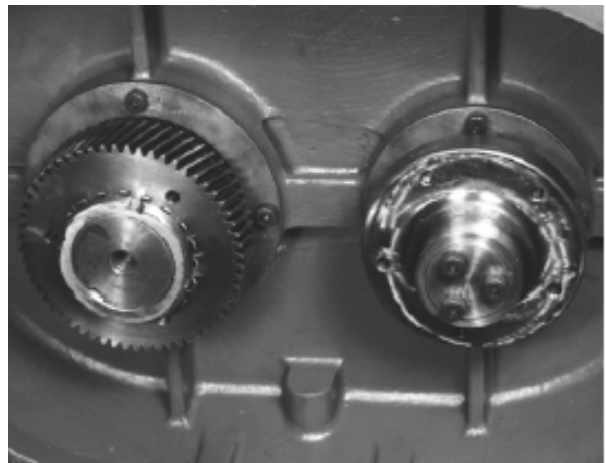

FIGURE 7-27 – INTALL HUB & PINION PULL TIGHT
27. Install the bearing clamp plate (12, 13) with “Nylok” type screws (67), (FIGURE 7-27).
Lock the rotors from turning with a piece of hard wood or belting. Install the hub (11) and pinion (10) and pull tight with a locking device, (FIGURE 7-27). Use the hub retainer (7) and screws (68) to pull the hub up tight against the bearing.